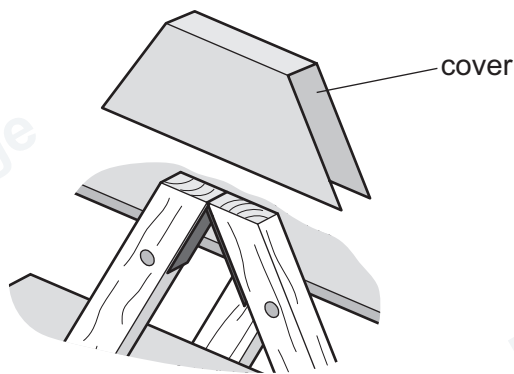

Figure 13.5
- (g) Figure 13.5 shows a cover that will be fitted over the ends of the legs. The cover is made from 1.6 mm thick mild steel sheet.